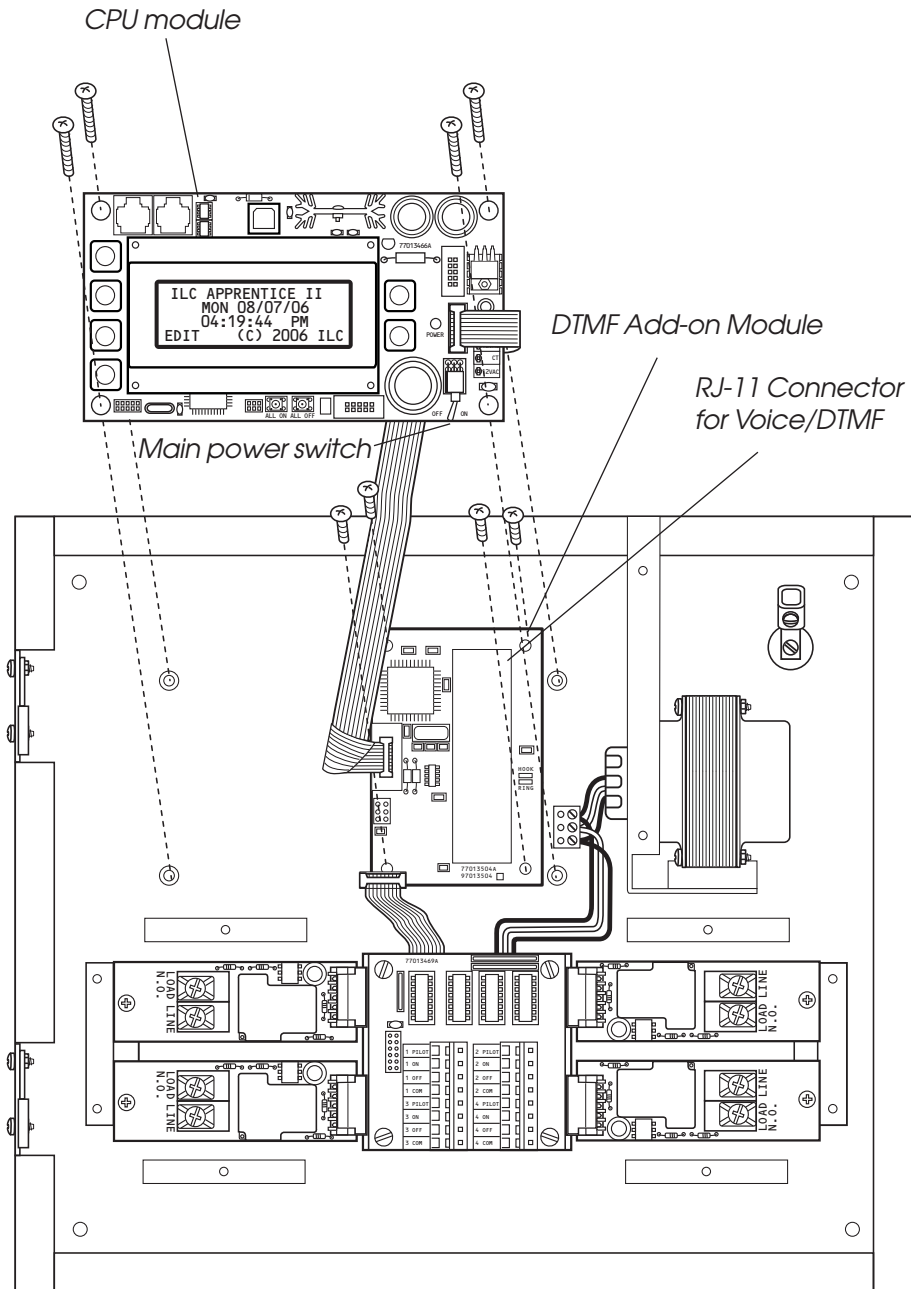

Figure A.2 – Voice/DTMF Module Installation
The telephone Add-On Module is an optional board that is easily added to the ILC Apprentice II controller. This module supports dual-tone multi-frequency (DTMF) touchtone telephone control and monitoring. The module plugs into the expansion port provided on the ILC Apprentice II controller CPU board. (See Figure A-2.)
1. The ILC Apprentice II must be equipped with a Voice/DTMF Add-On Module. Locate the card on the controller’s processor board. (See Figure A.2.)